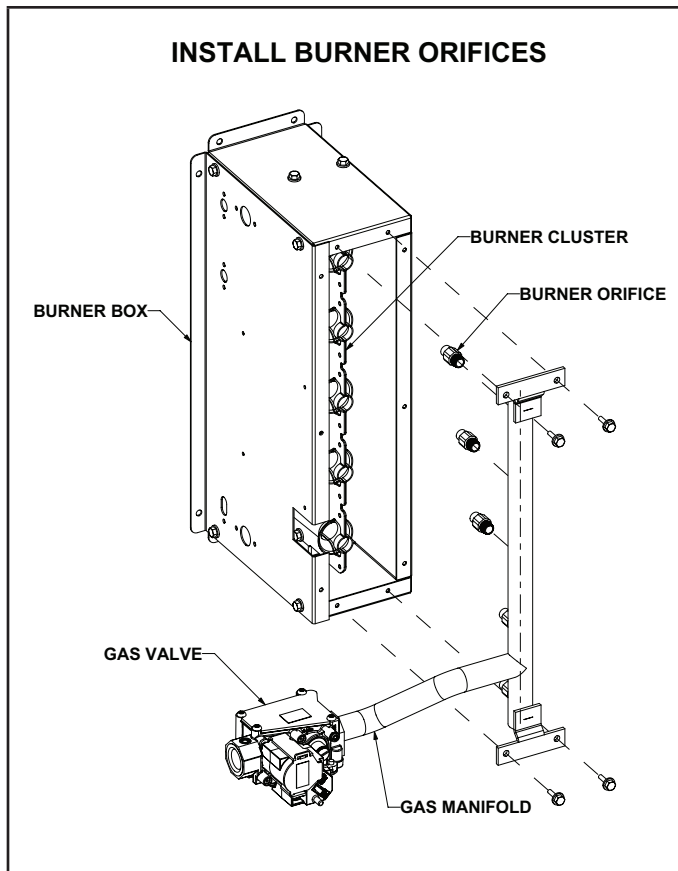

Figure 1
- 5 - Remove four screws on the gas manifold assembly which hold the assembly to the burner box. See figure 1.